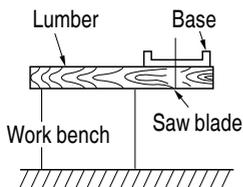

Fig. 17
6. Prepare a wooden work bench (Fig. 17)